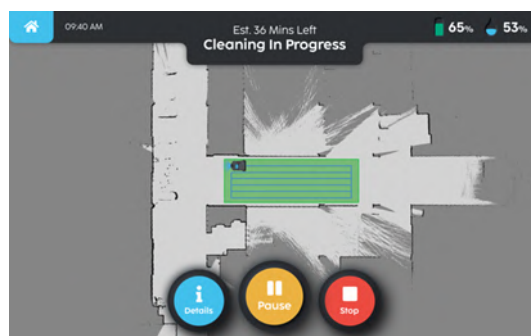

FIGURE 6-21
4. Press 'Clean' and the machine will start the cleaning operation (**Fig. 6-21**).